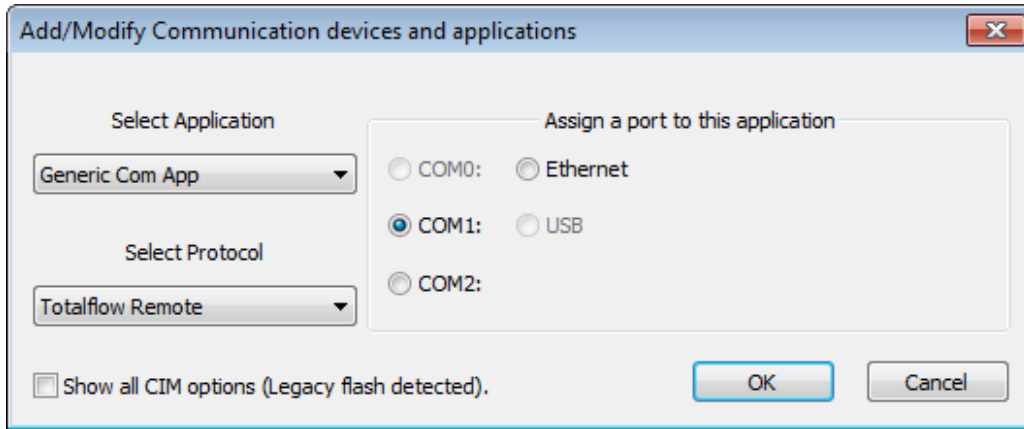

Figure 34: Add communication
- Click **Add New Device/Application**. The Add/Modify Communication device and application box displays (Figure 34)